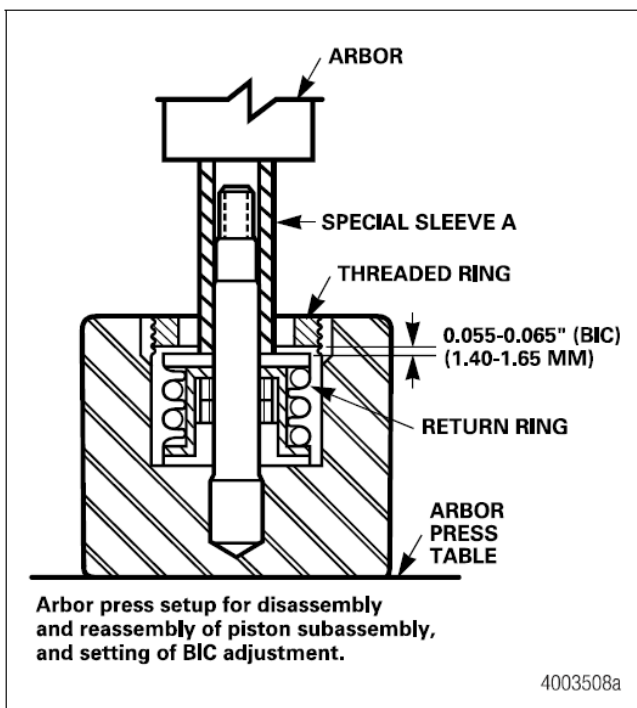
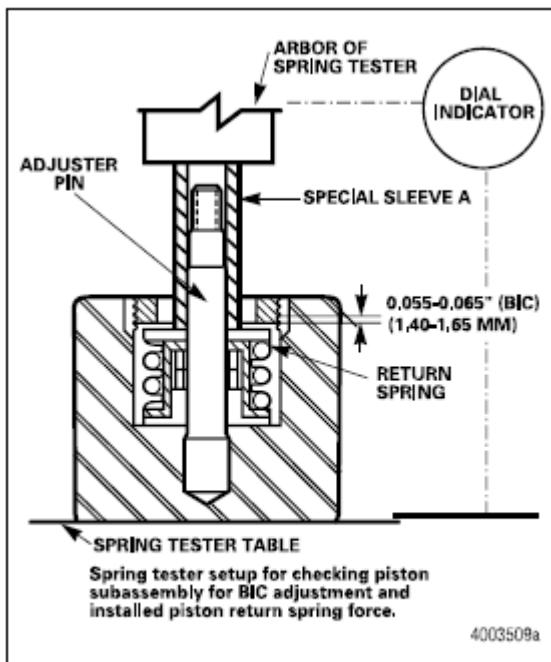
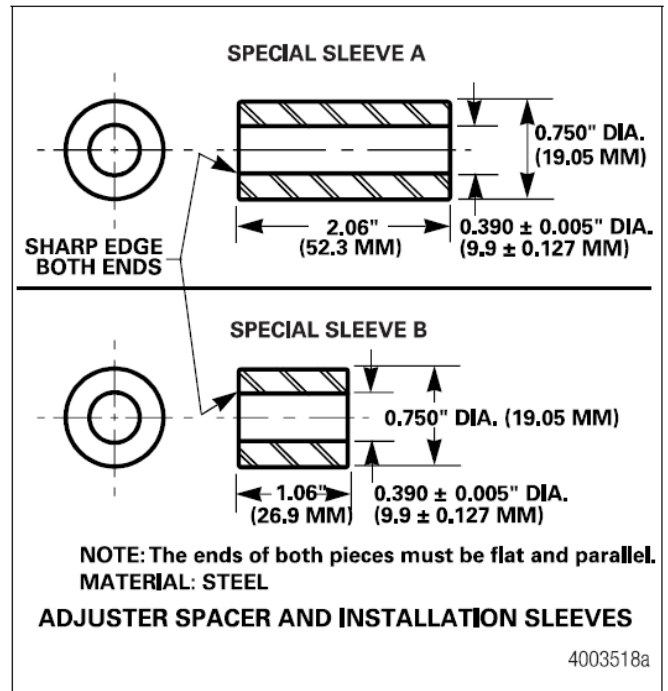

Figure 3.14
Figure 4.1
FIGURE 4.5.1
3. Place the piston subassembly on an arbor press table. Figure 3.14. Use special sleeve A. Figure 4.5.1, over the adjuster pin. Lower the arbor and compress the return spring to minimum height, and hold.
1. Place the piston subassembly onto spring tester table. Install special sleeve A, figure 4.5.1, over exposed adjuster pin. Figure 4.1.
3. Lower the spring tester arbor to compress the spring to minimum height. Figure 4.1 the indicator pointer will stop rotating.
1. Use both special sleeves, shown in Figure 4.5.1 as illustrated in Views A and B of Figure 4.5 to slip the adjuster back and forth several times on the adjuster pin.
6. Position the piston assembly onto an arbor press table. Figure 3.14. Use special sleeve A shown in Figure 4.5.1 over the adjuster pin. Position the threaded ring over the special sleeve.